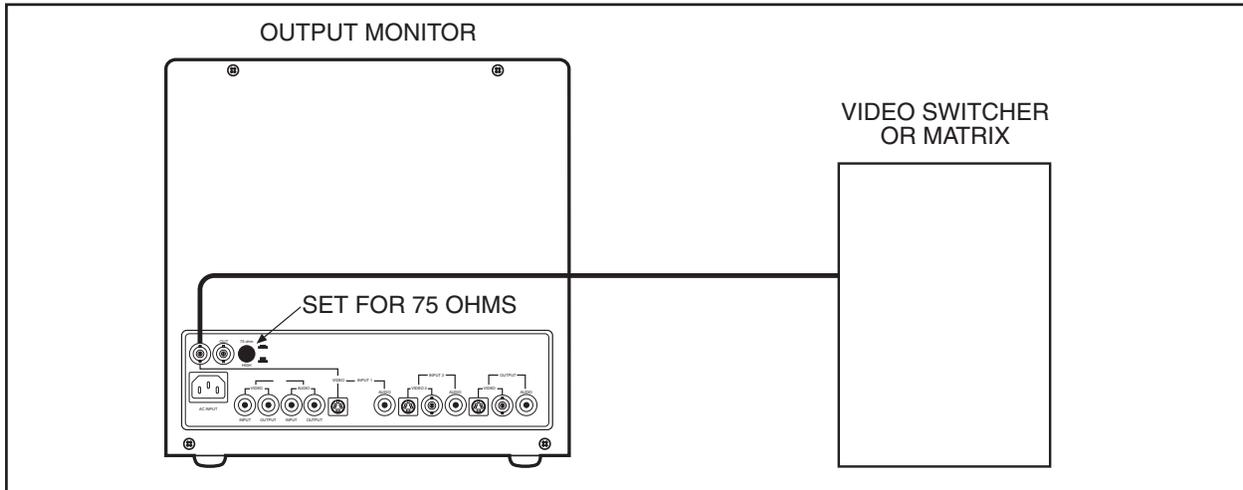

Figure 3. Input from Switcher or Matrix Control System
1. Refer to Figure 3. Connect the video output from the video switcher or matrix control equipment to Input 1 or Input 2 on the output monitor.